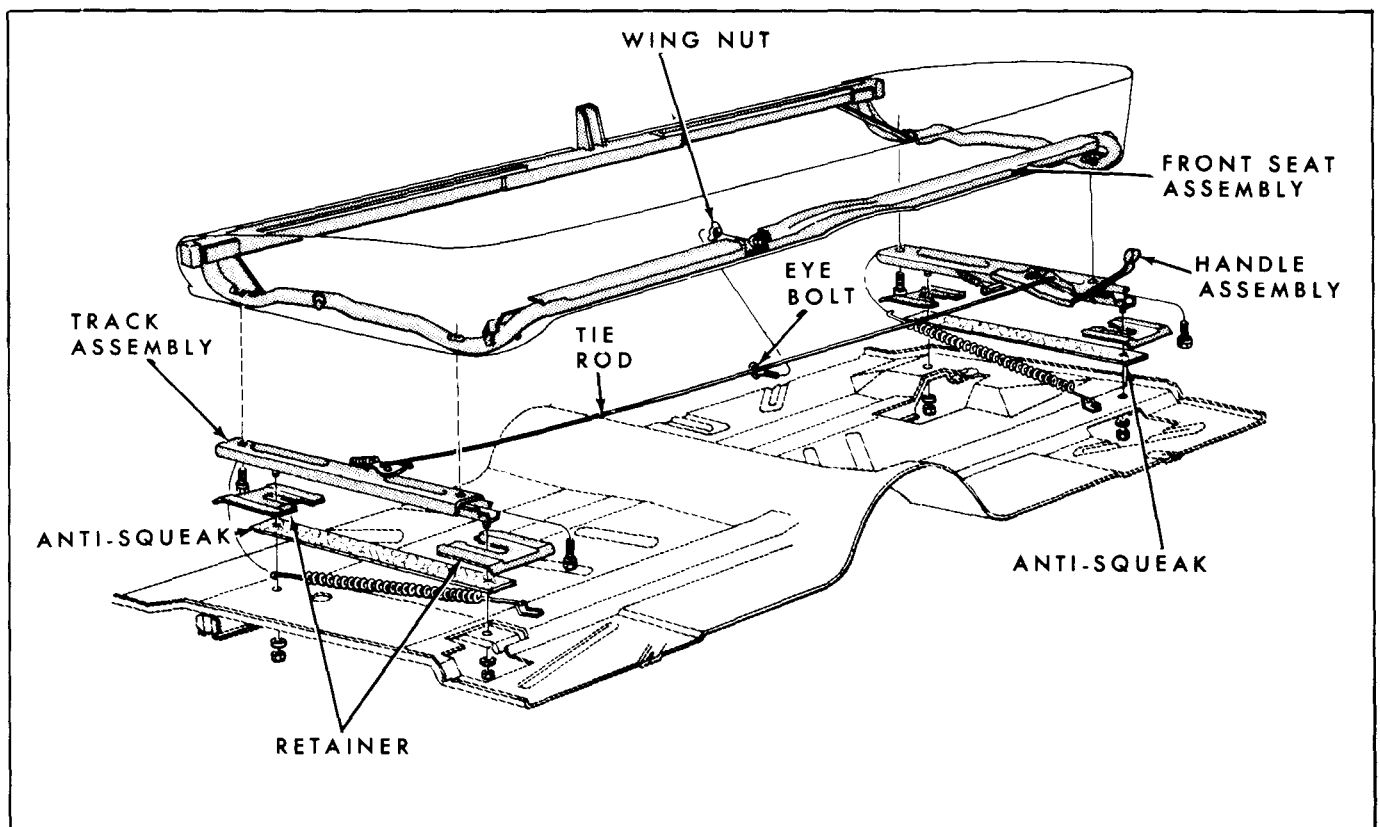

Fig. 13D-1—Front Seat—(60C-8009)
1. Disconnect and remove the front seat retracting springs from the seat track. See figure 13D-1.